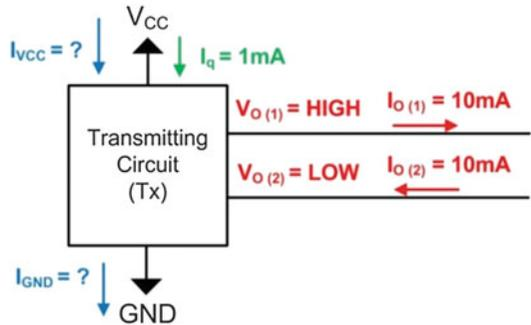

Fig. 3.37
- 3.2.9 For the driver configuration in Fig. 3.37, give the current flowing through the V_{CC} pin.
- 3.2.10 For the driver configuration in Fig. 3.37, give the current flowing through the GND pin.